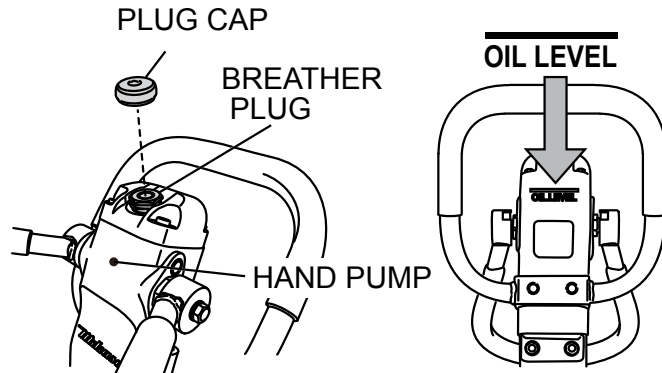

Figure 29. Removing Plug/Breather Cap
1. With the handle in vertical position, remove the plug cap from the hydraulic pump (Figure 29).
6. Pour hydraulic oil (330 cc) to the hydraulic pump breather plug attachment hole (Figure 29).